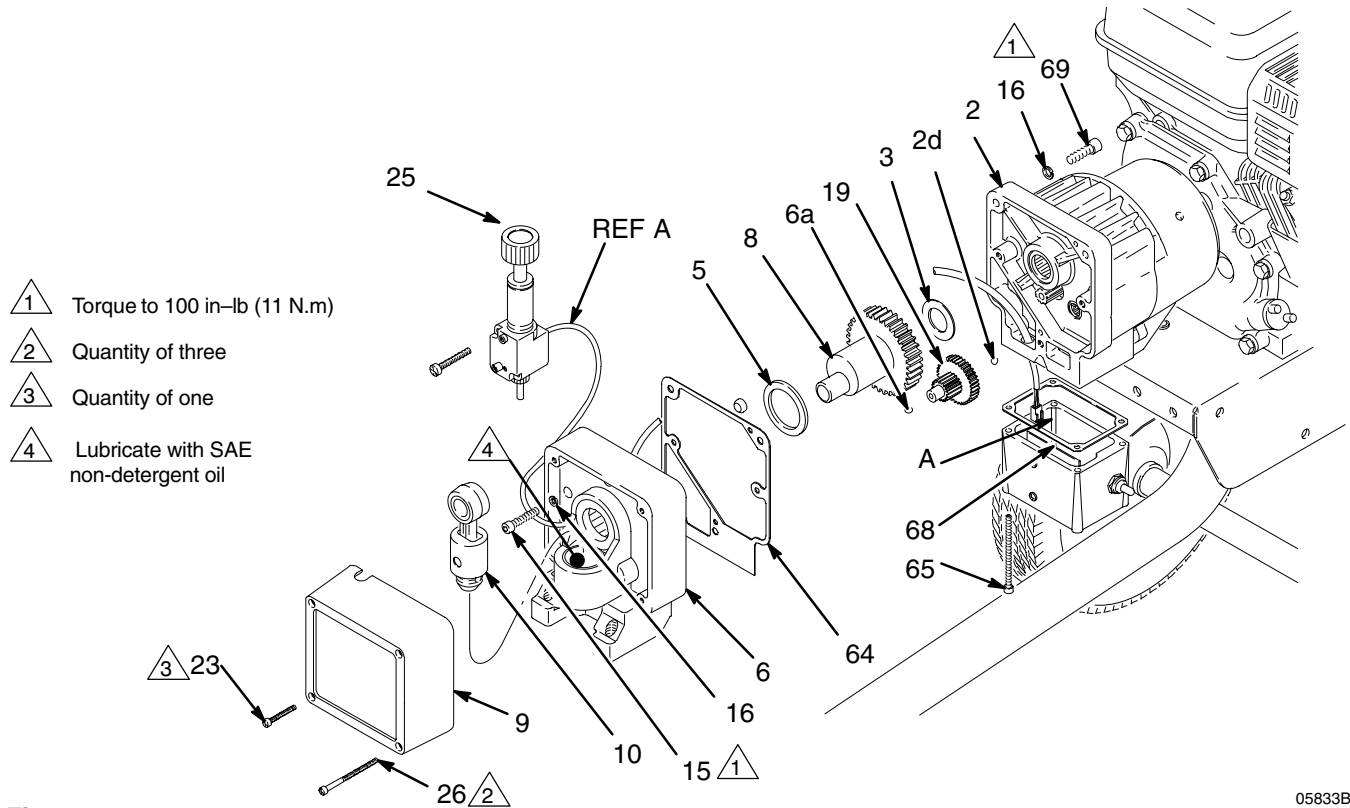

Fig. 5
2. Remove the pressure control (25). See page 18.
3. Remove the three drive housing screws and lock washers (15, 16). See Fig. 5 on page 17.
4. Remove the two pinion housing screws (69) and lock washers (16). See Fig. 5 on page 17.
5. Tap the lower rear of the drive housing (6) with a plastic mallet to loosen the drive housing. Pull the drive housing straight off the pinion housing.